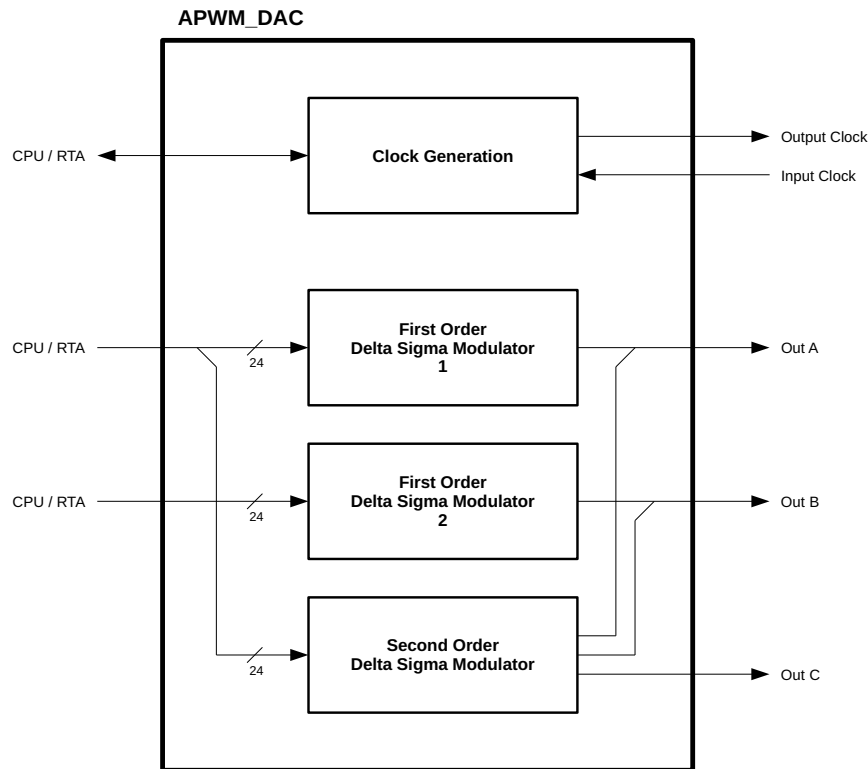

Figure 125. Block diagram of an APWM\_DAC unit
APWM\_DAC provides a digital modulated output signal, to be low-pass (LP) filtered on PCB. It can work as a second-order or two first-order delta sigma modulators, see figure 125. It can run on external clock from GPIO or internal clock configurable to system clock divided by an integer value. The modulator input value can be updated continuously from RTA or the main LEON3FT.